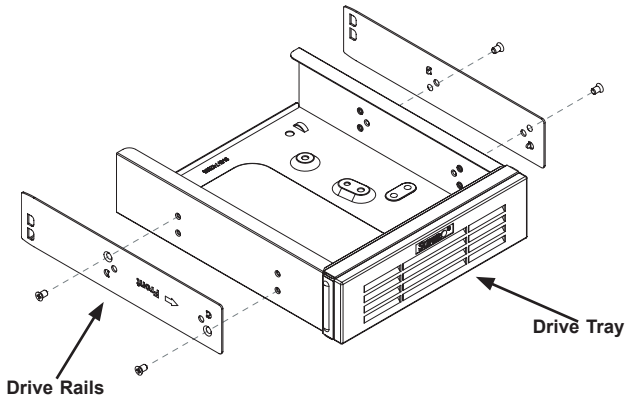

Figure 5-7. Removing Rails from the Drive Tray
4. Remove the rails from the drive tray by removing two screws from each side. (Figure 5-7)
4. Remove the six drive tray rails (Figure 5-7).